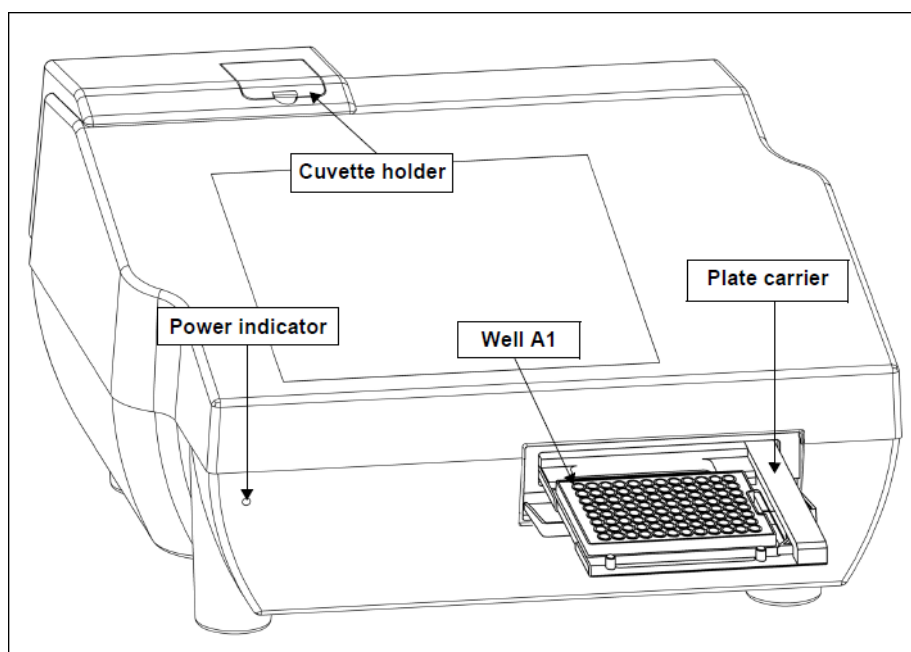

Figure 1-4. Zenyth 200 with plate carrier open
4. After turning on the power switch at the rear of the instrument, a power indicator on the front panel indicates the current status of the instrument (Figure 1-4):
2. Place the microplate on the plate carrier with well A1 oriented so that it is in the back left corner of the plate carrier (Figure 1-4).
Cuvettes to be read are loaded manually into the cuvette holder near the back left corner of the instrument (Figure 1-4). When performing measurements, cuvettes are not loaded into the instrument until the lamp output has stabilized. During measurements, the ADAP Software displays a visual prompt onscreen when the cuvette should be inserted in the holder.
1. Open the door to the cuvette holder by hand (Figure 1-4).